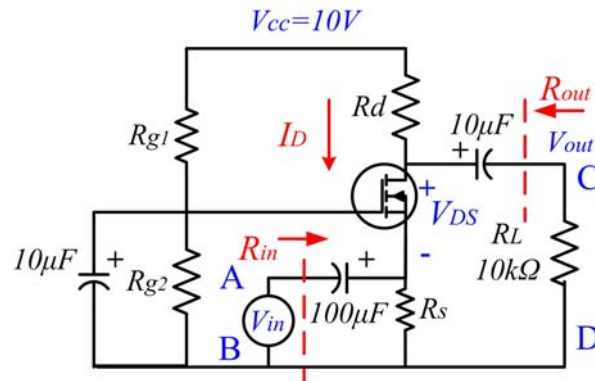

Figure 3: Common gate amplifier
Figure 3 illustrates the circuit of a common gate amplifier. A bypass capacitor is added on the gate to provide an AC ground in small signal operation. A source resistor R_s is added in the bias circuit. The input signal is connected through a decoupling capacitor to the source.
1. Build the circuit on the breadboard as shown in Figure 3 using 2N7000. Use $R_s = 100\Omega$, $R_{g1} = 10k$ and find the value of R_{g2} to make sure $I_D = 5mA$. Find R_d to make $V_D = V_{cc} / 2$.